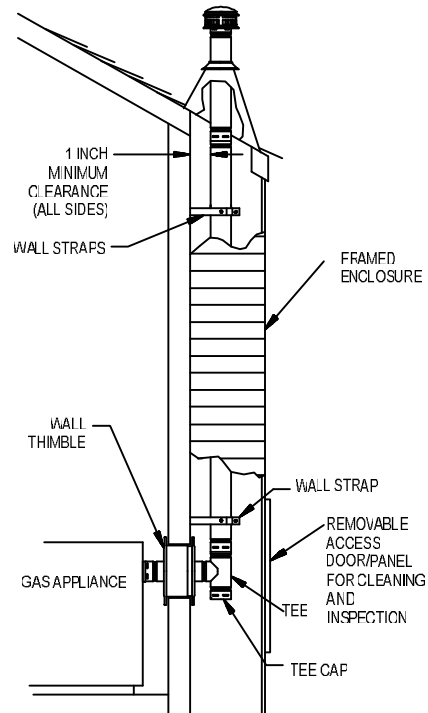

Figure 11
**8. Tees and Wyes.** Tees and Wyes are used to combine connectors from 2 or more appliances into a common vent as shown in **Figures 2 and 3**. A Tee should be used in a through-the-wall application, (**Figure 11**), as they have a removable Tee Cap (available as a separate item) attached to the bottom. This Tee Cap may be removed in order to inspect the system, or to clean out debris or collected condensate from the common vent. Wall Straps should be used to support the vertical pipe as needed to provide a secure installation. Wall Straps every four feet are required.
**9. Enclosures.** Any portion of the vent which passes through an occupied area must be enclosed, to prevent accidental damage to the system, as well as burns. **Figure 1** shows a system which passes through an occupied second floor. DuraVent does not recommend installation of B-Vent Pipe on the outside wall of a building, particularly in cold climates. If it is necessary to do this, enclose the outside portion of the system in a chase, as shown in **Figure 11**. Consult the Local Authority